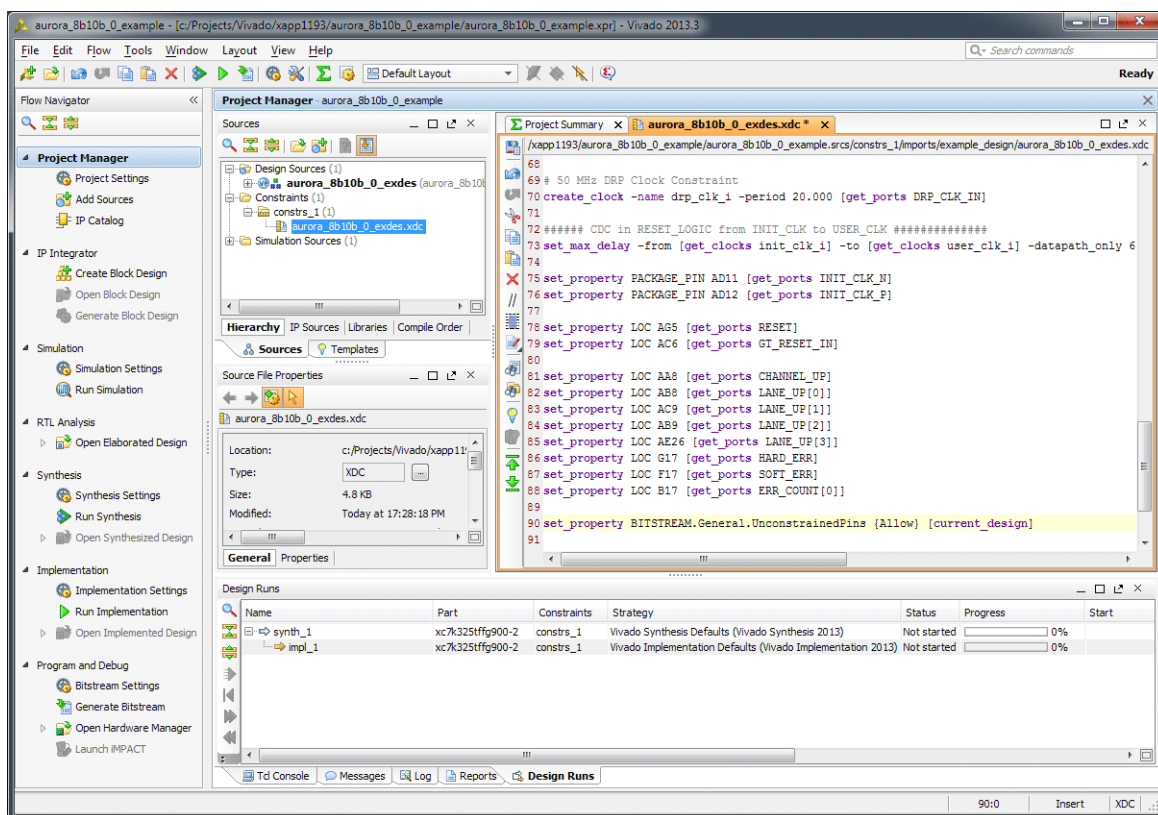

Figure 13: Aurora 8B10B Four Lane Constraints File
5. In the newly-opened Vivado IDE window, expand the Constraints entry in the Sources panel of the Project Manager section. Right-click the constraints file (aurora\_8b10b\_0\_exdes.xdc) and select **Open file** (Figure 13).
7. This example contains unconstrained pins. To permit bitstream file generation, add this line to the end of the constraints file (Figure 13):